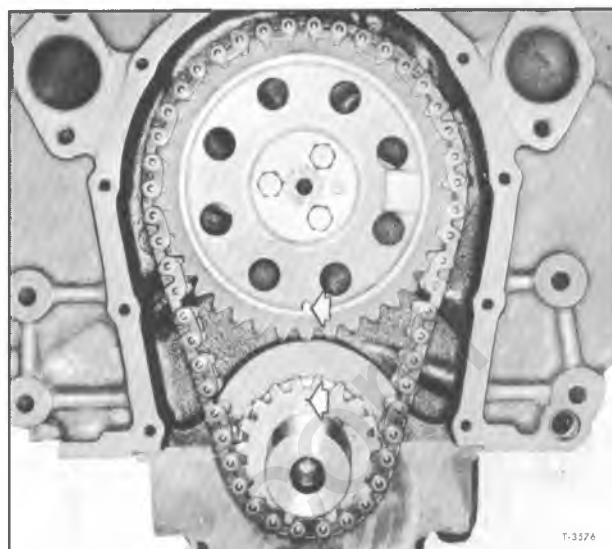

Figure 44—Marks on Timing Chain Sprockets
2. Crank engine until marks on camshaft and crankshaft sprockets are in alignment (fig. 44).
2. Install timing chain camshaft sprocket. Hold the sprocket vertical with the chain hanging down and position so alignment marks (fig. 44) are located as shown.